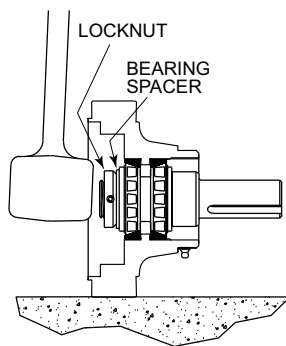

Figure 6.3.5.5 Final Assembly of Input Shaft Housing
17. Hold housing on its' side, and with a blunt instrument, rap on the inboard side of shaft. Reference **Figure 6.3.5.5**.